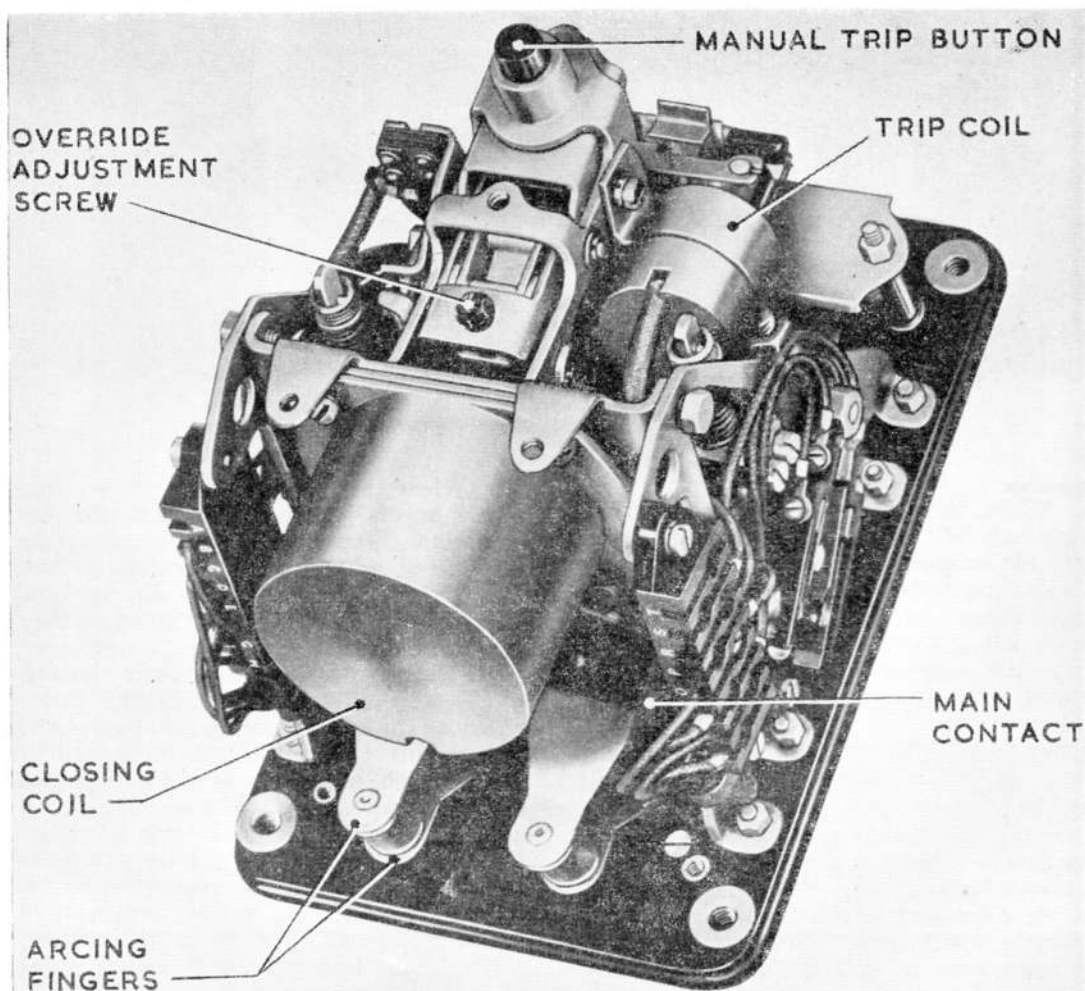

Fig. 3. View with cover and arc chute removed
10. When the main contacts open, their arcing fingers break contact just after the main contacts open so that arcing takes place only between these fingers within the arc chutes, thereby protecting the main contacts. The fingers are easily renewable when they become unserviceable. To fit a new fixed arcing finger, unlock and unscrew the nut which secures its stud (accessible after removing the moulded housing and connector bar) and lift the terminal from its position in the base. The unserviceable arcing finger can now be removed and a new one fitted. An adjustable link is fitted in order to obtain the contact "override" of  $.040 \text{ in.} \pm .010 \text{ in.}$  and it is important to ensure that this override is maintained by setting the slotted screw adjustment (*fig. 3*) in the contact carrier link of the toggle. To fit a new moving arcing finger, remove the two hexagon bolts which secure it to the top of the main